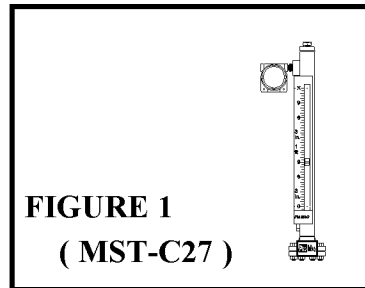

FIGURE 1
1. **MST-C27:** This unit is integrally mounted with a PROMAG PM-26. The PM-26 is a device used to measure vessel liquid levels. See PM-26 brochure for detailed description of it's operation. Basically the PM-26 contains a float that is monitoring the vessel's liquid level. This float has a magnet internally mounted, which sets up a magnetic field around it's perimeter. It is this magnetic field that the MST senses and in turn transmits a 4 to 20 mA signal relative to the float's position in the chamber. See Figure 1 below.